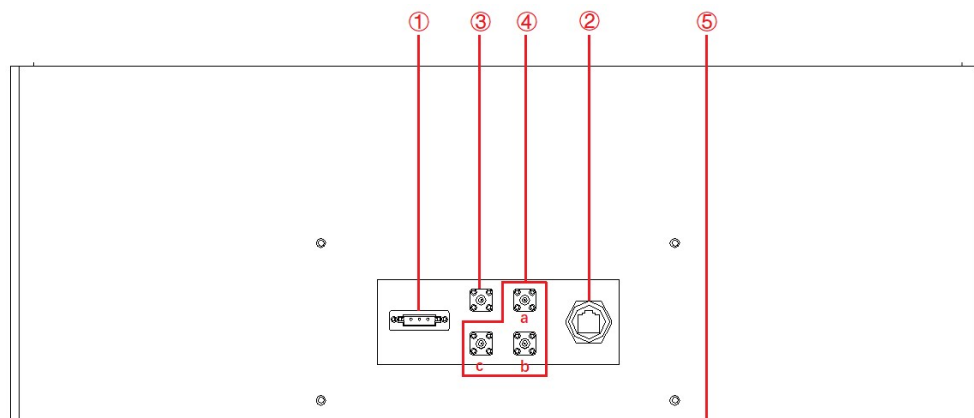

Figure 1-9 Rear panel
The RS485 interface is located on the rear panel of power supply (Figure 1-9①).